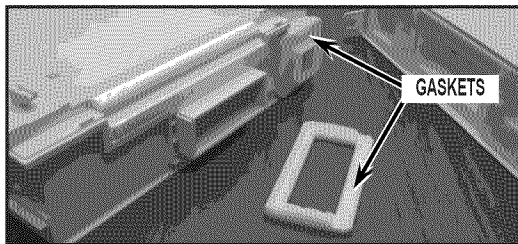

FIGURE 12
15. Remove rear return and rear supply gaskets from ice box assembly and discard old gaskets. See *Figure 12*.